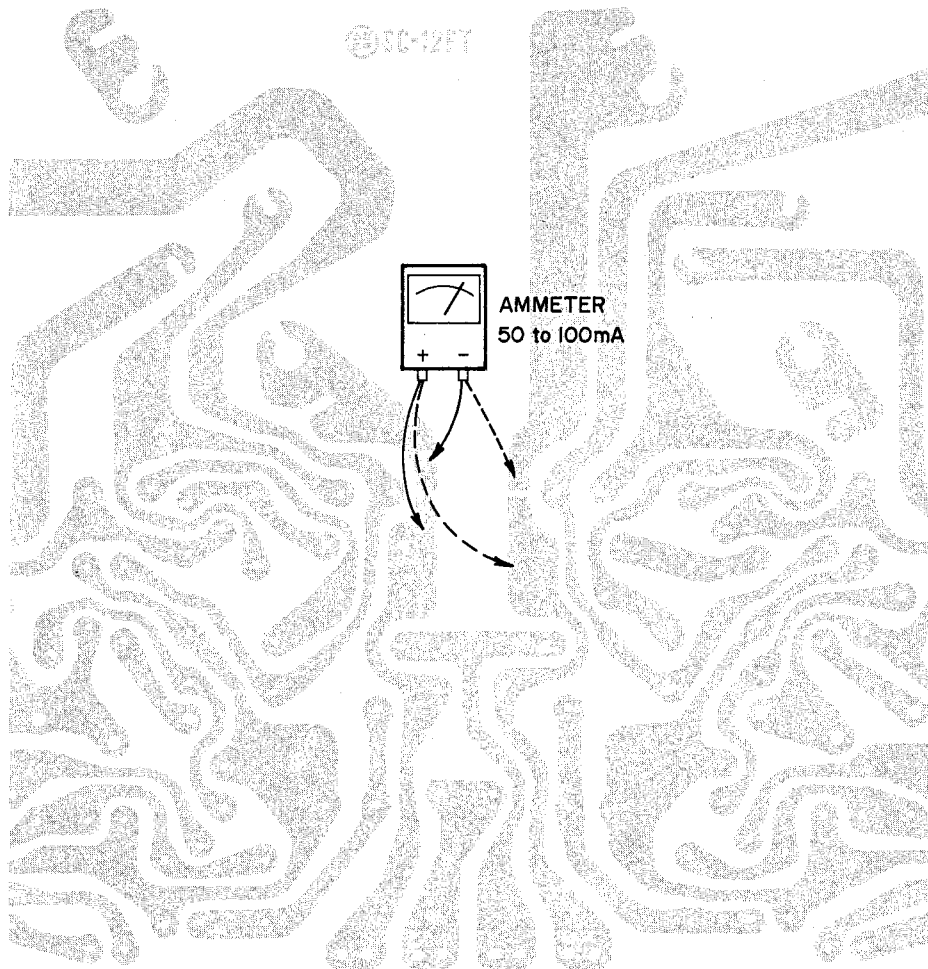

Fig. 26
### 1. POWER AMP. NON-INPUT CURRENT ADJUSTMENT (Refer to Figs. 26,27)
- 3) Adjust semi-fixed resistors VR2 100B(Left) and VR2b 100B(Right) of Power Amp. P.C. Board shown in Fig. 26 to obtain a 40 mA ampere meter indication on both the left and right channels.
- 2) Adjust semi-fixed resistors VR1 30 kB(Left) and VR1b 30 kB(Right) of Power Amp. P.C. Board shown in Fig. 26 to obtain half the value of the power source voltage.